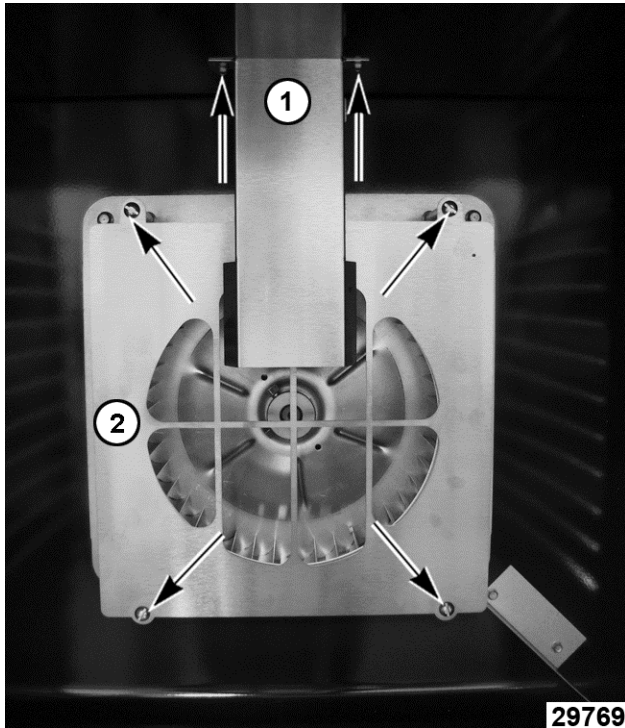

Fig. 30
13. Install snorkel (1, Fig. 30) and baffle panel (2, Fig. 30).